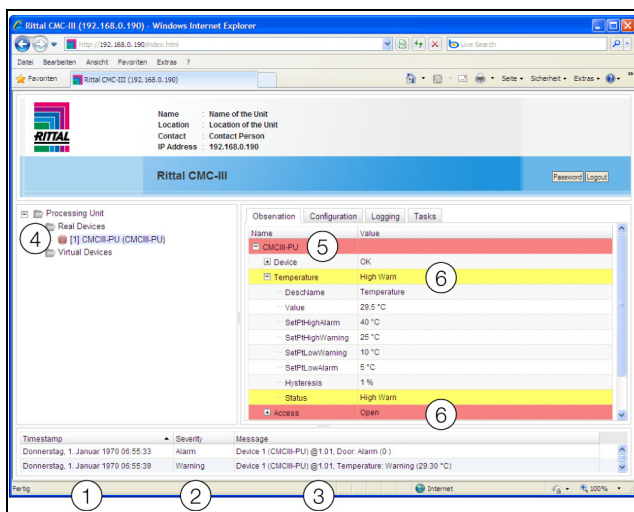

Fig. 29: Structure of the message display
1. Timestamp: Date and time when the error occurred (fig. 29, pos. 1).
2. Severity: Severity of the error. A differentiation is made between warnings and alarms (fig. 29, pos. 2).
3. Message: Error message in plain text (fig. 29, pos. 3).
- Left-hand screen area: The symbol in front of the component where the error occurred is coloured red for an alarm message or yellow for a warning message in the tree view (fig. 29, pos. 4).
ing or the alarm is pending is coloured red or yellow on the **Observation** tab (fig. 29, pos. 5 and 6).